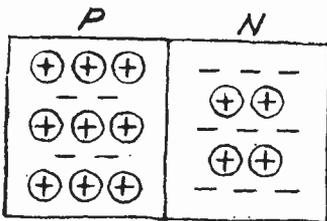

Fig. 1. Typical pn junction representation.
**The simplest semiconductor** device, the diode, can be represented by the diagram in Fig. 1. The diode consists of a sandwich of n- and p-type material. Where the two